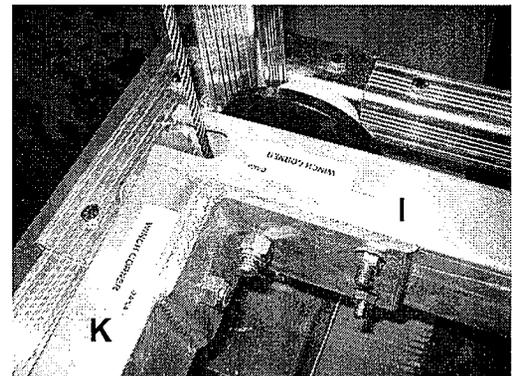

FIG. 20
9. Install two 3/8" hex bolts and nuts as in FIG. 20.